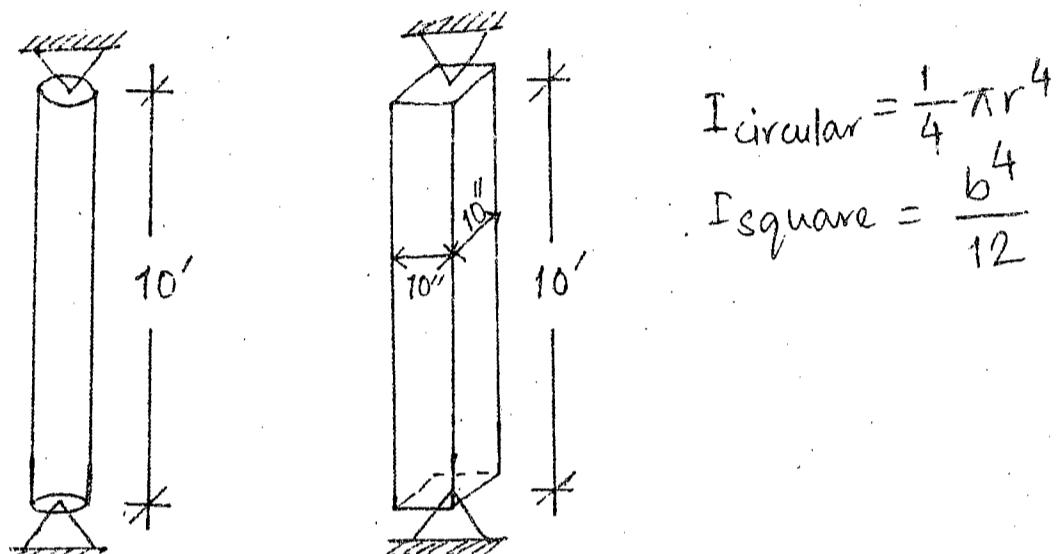

Figure 8
10. A round and a square column are made of steel. Determine the radius of the round column so that the round and the square column (shown in Figure 8) have the same slenderness ratio. Also compute the largest load each of them can support considering both buckling and yielding. Given,  $E = 29000 \text{ ksi}$ ,  $F_y = 36 \text{ ksi}$ . (14)